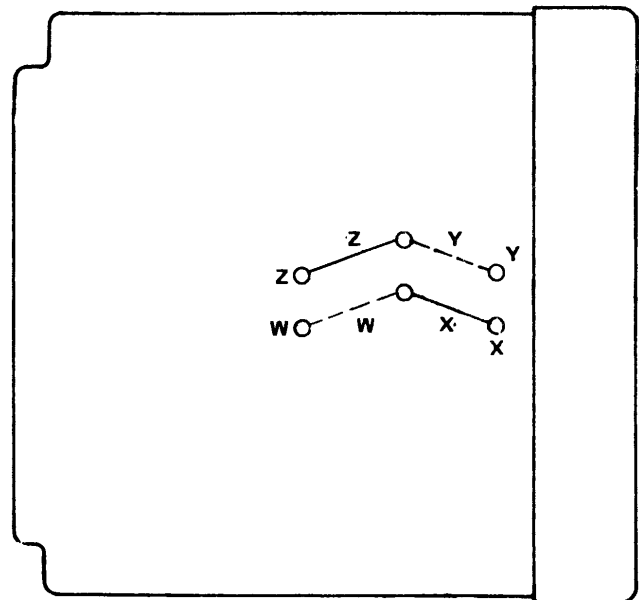

Figure 2. 7376 Strapping Option Location
7.01 The 7376 is provided with internal strapping options (Figure 2) which permit the use of either the internal or external talk battery supply to the drop side. The 7376 is factory wired with straps X and Z installed. If an external source of talk battery and ground is to be used, remove straps X and Z and install straps W and Y.